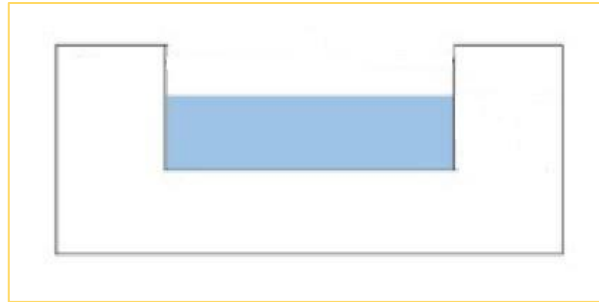

Figure 14: Schematic diagram of a flow through rectangular notch
- Fix the plate with rectangular notch (figure 14) in the hydraulic bench